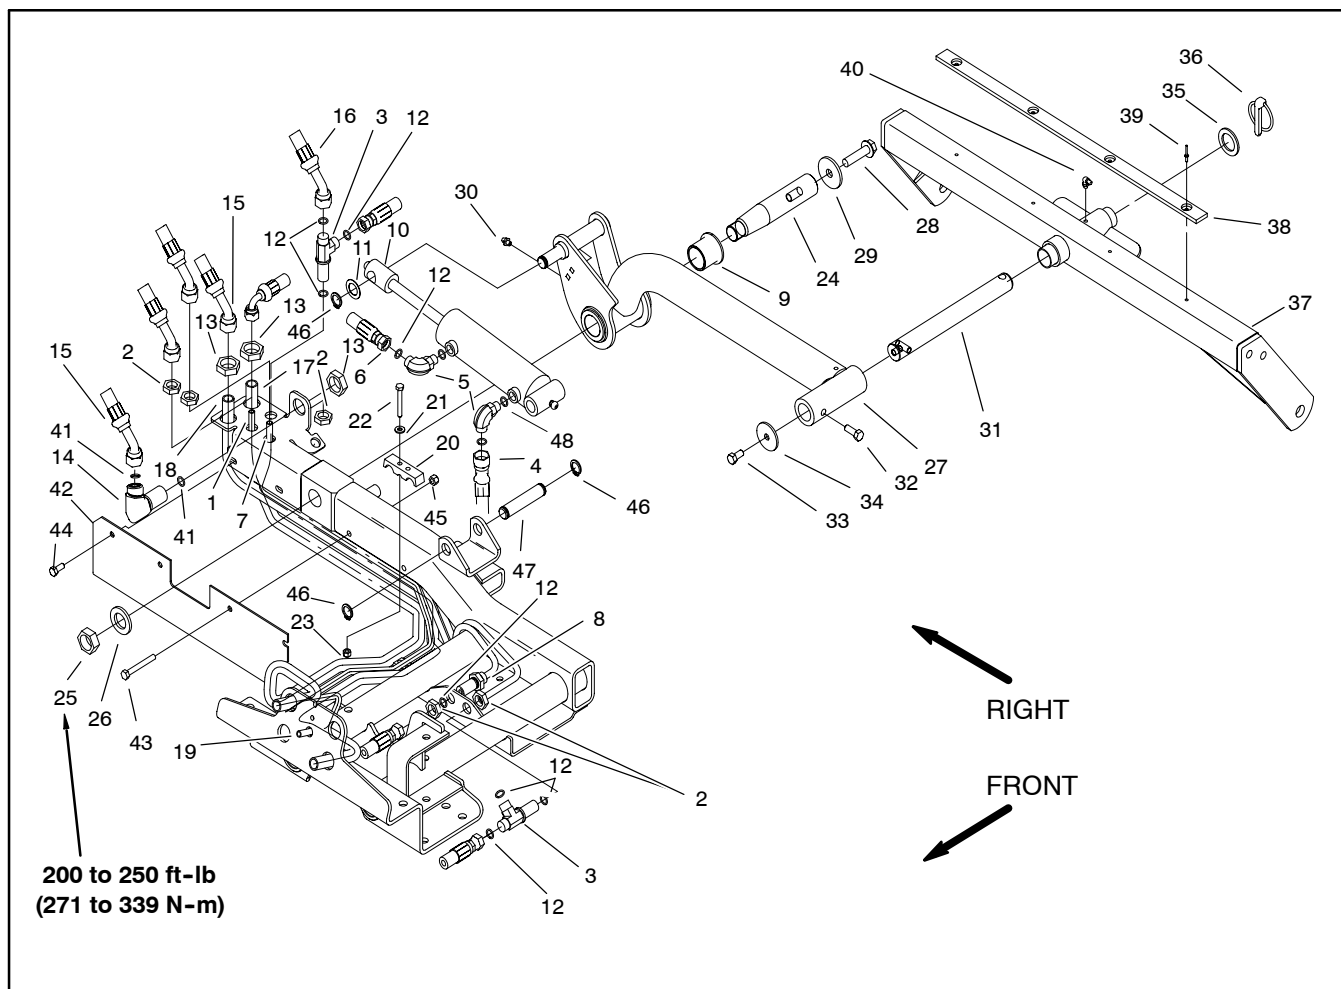

Figure 20
6. Disassemble lift arm as necessary using Figure 20 as a guide.
1. Assemble lift arm using Figure 20 as a guide.
- A. If the rear lift arm pivot shaft (item 24) was removed from frame, thoroughly clean tapered surfaces of shaft and frame. Position pivot shaft to frame and secure with washer and jam nut. Torque jam nut from 200 to 250 ft-lb (271 to 339 N-m).
- B. If the cutting unit pivot shaft (item 31) was removed from lift arm, apply antiseize lubricant to pivot shaft before inserting into lift arm. Secure pivot shaft with two (2) cap screws (items 32 and 33) and washer (item 34).